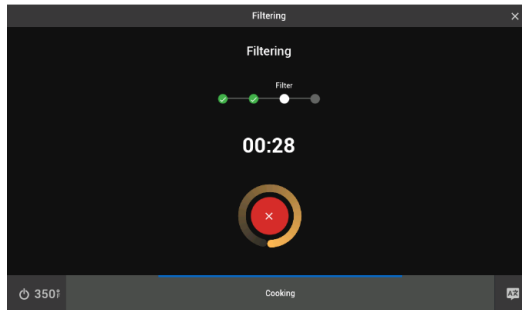

Figure 91 - Filtering / Polishing Countdown
- If oil quality is *acceptable* the operator can open return valve (red handle) **Figure 89** and click **Continue** to begin Filtering / Polishing **Figure 91** (screen will show "Polishing" at the top when polish is chosen)